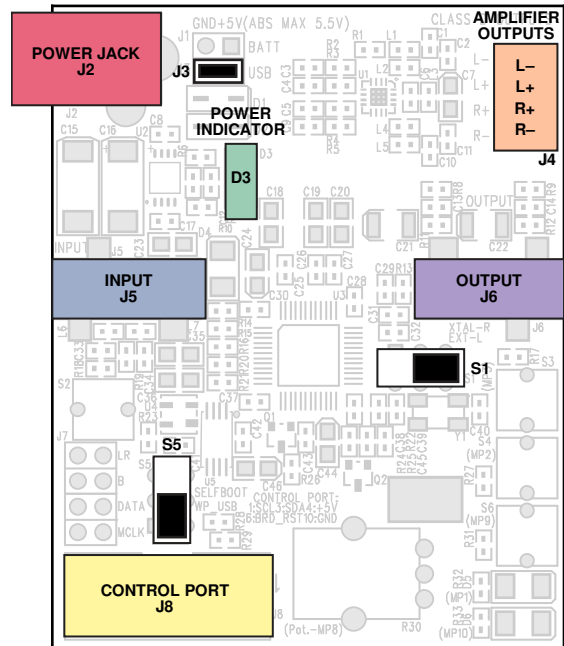

Figure 2. Evaluation Board Setup and Configuration
1. Plug in the USBi into the control port on the evaluation board (see Figure 2).
The evaluation board can be powered either by the USBi or by the power supply provided with the board. For the board to run independently from the computer, disconnect Jumper J3 and connect the power supply at J2 (see Figure 2). The power indicator LED, D3 (see Figure 2), should be lit.
1. Connect the audio source to the input J5 jack (see Figure 2).
2. Connect the output J6 jack to your speakers or headphones (see Figure 2).
To configure the evaluation board for stereo analog input and output, set the switches and jumpers as shown in Figure 2.
10. For each of the outputs select a DAC output from the pull-down menu. **DAC0** and **DAC1** are amplifier left and right outputs (J4 on the board marked in Figure 2, respectively). **DAC2** and **DAC3** are left and right channel outputs, respectively, for the stereo lineout output (J6 on is shown in Figure 2).